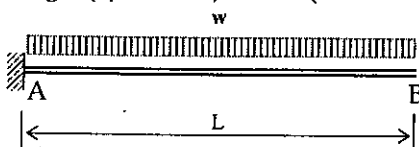

Fig. 2(a)
- a.) Using the Moment Area Method, show that the maximum deflection in the simply supported beam shown in Fig. 2(a) is $5wL^4/384EI$. ($EI = \text{constant}$).